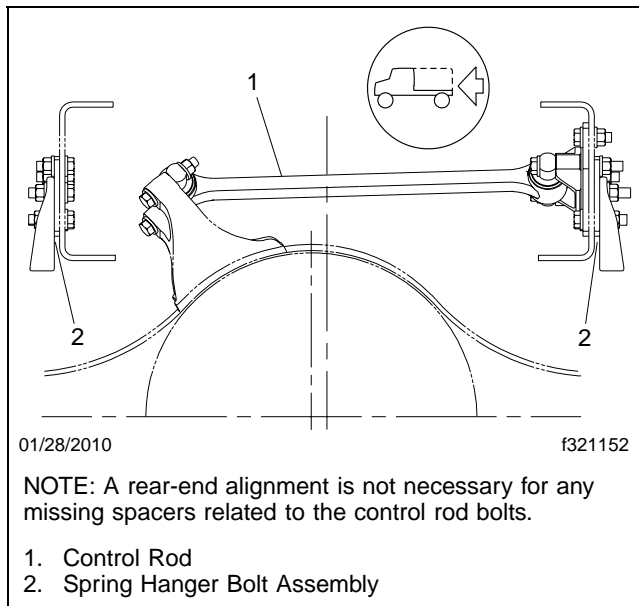

Fig. 1, Rear Axle
1. For vehicles in FL567A or FL567C with missing control rod bolts, replace the missing and/or damaged parts. See **Fig. 1**. Tighten the bolts 98 to 128 lbf·ft (133 to 169 N·m).